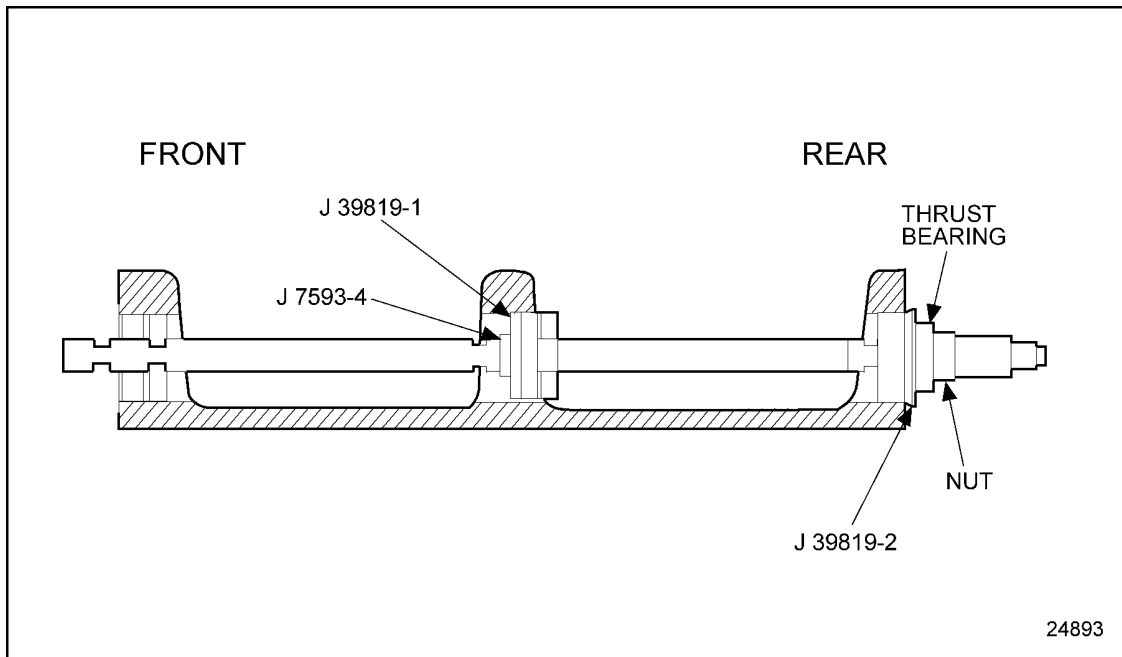

Figure 1-375 Remove Center Bushings
1. Insert shaft J 39819-5 halfway through the front of the cradle, then place C-washer J 7593-4 and bushing installer J 39819-2 over the threaded end. Pass the shaft through the center and rear bushing bore areas. See Figure 1-375.